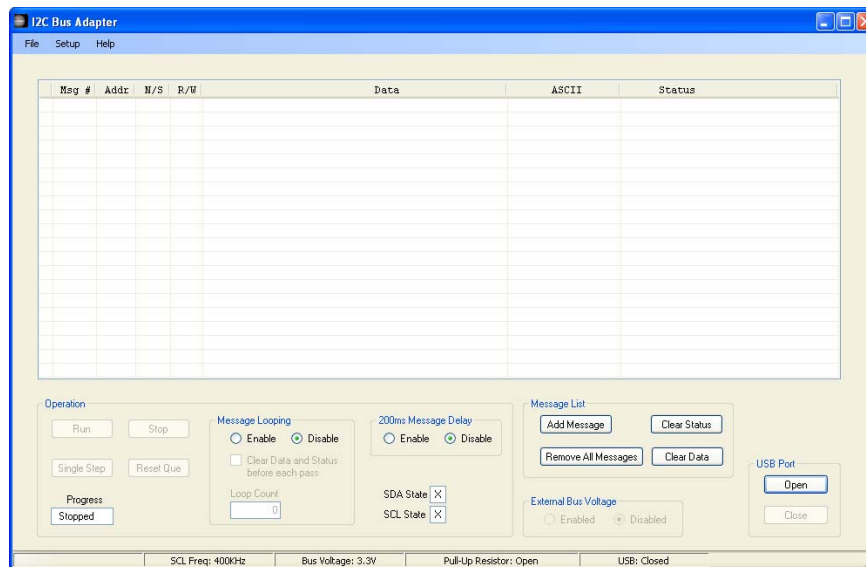

Figure 1. I2C Host Adapter Main Window
4. Verify that the main I2C Host Adapter window is displayed as shown in figure 1.